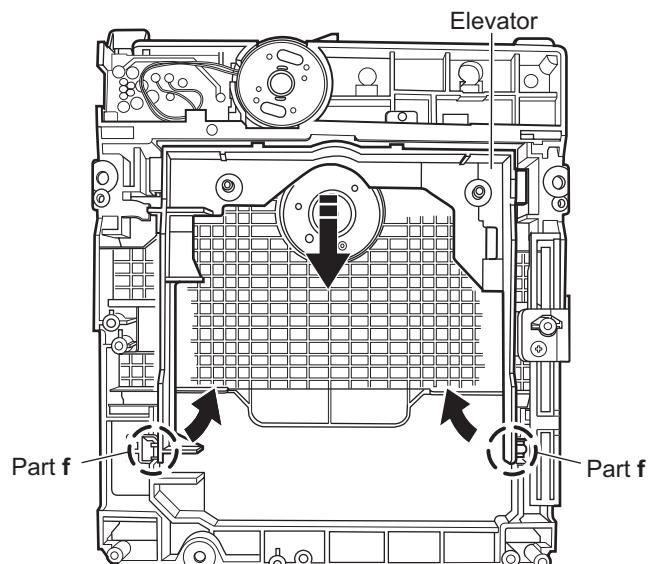

Fig.8
3.2.3 Removing the elevator (See Figure 8 and Figure 9)